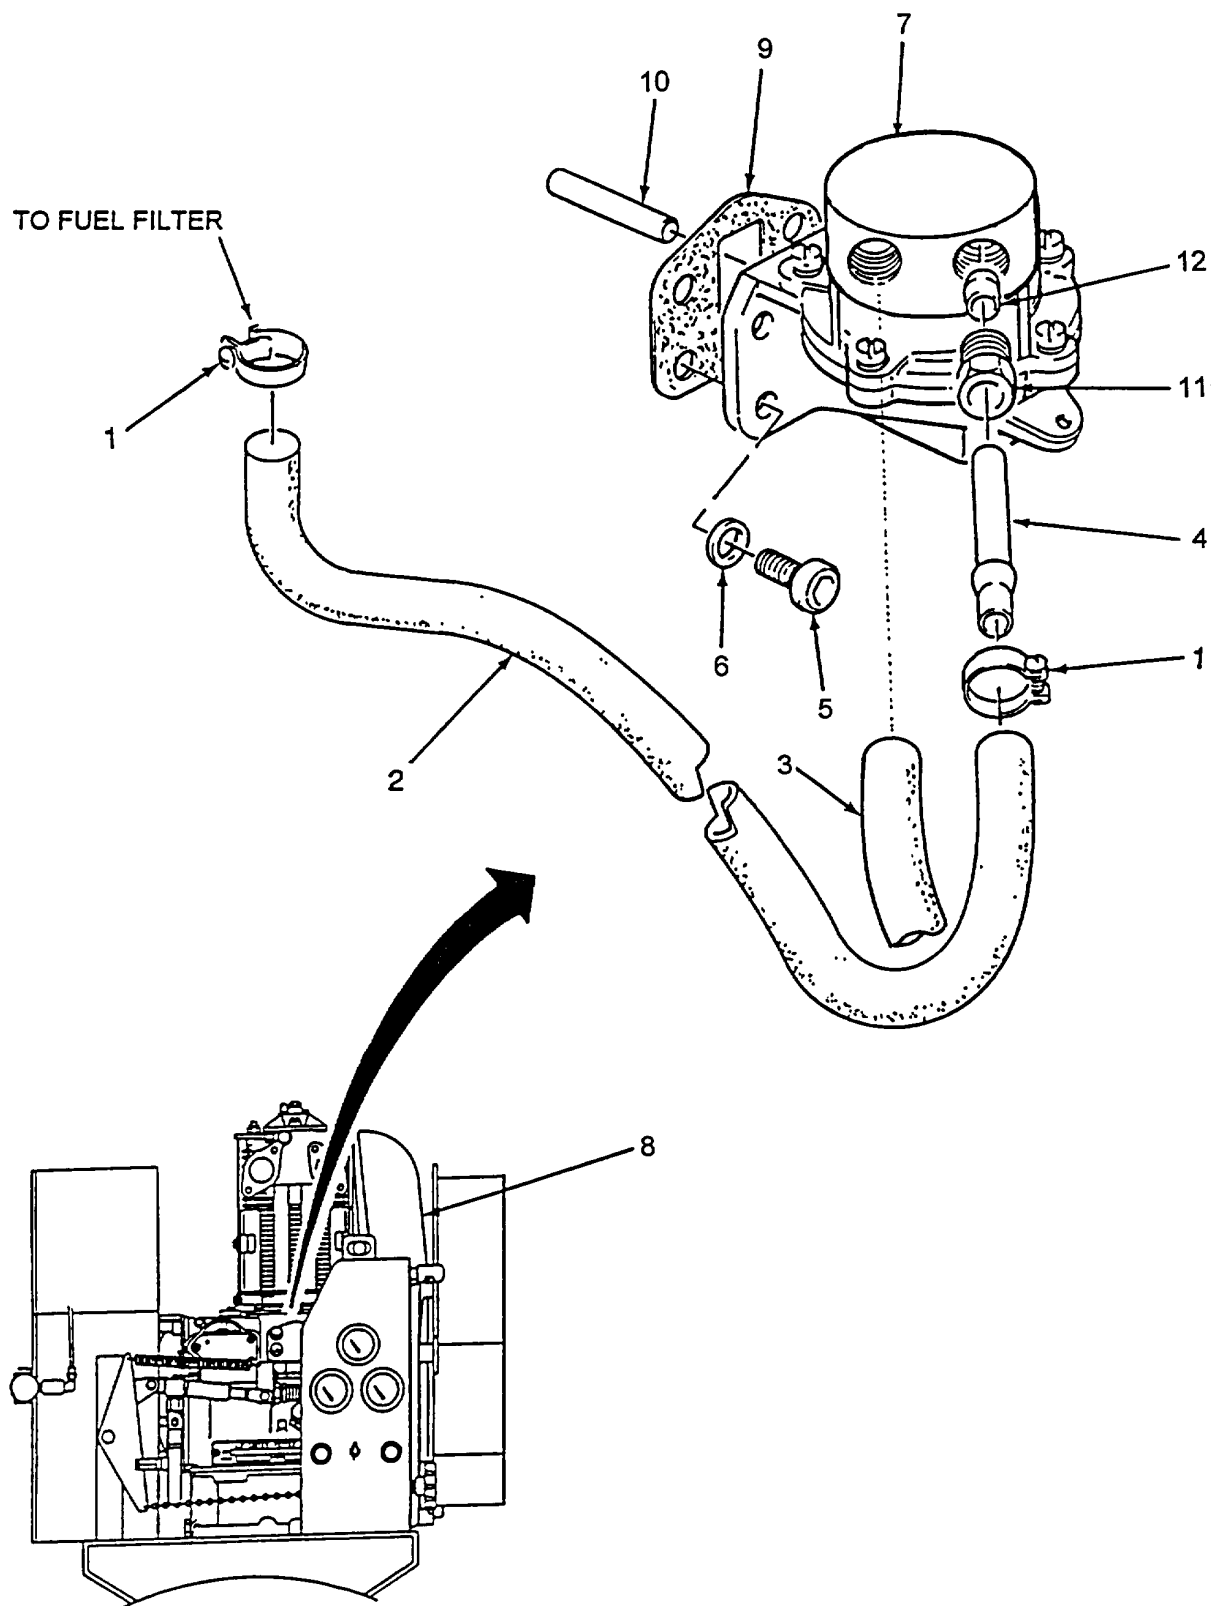

Figure 5-16. Fuel Lift Pump
(1) Removal. (Refer to Figure 5-16).
- (a) Loosen pipe clips (1) and slide them down on flexible fuel pipes (2 and 3). Remove flexible fuel pipe (2 and 3) from connections (4).
- (b) Remove four cap screws (5) and four washers (6) holding fuel lift pump (7) onto diesel engine (8).
- (c) Remove fuel lift pump (7), gasket (9) and push rod (10) from diesel engine (8).
- (d) Unscrew union (11) from port of fuel lift pump (7).
- (e) Remove connection (4), with ferrule (12) and union (11) from port of fuel lift pump (7).
(2) Repair.
- (b) Replace gasket (9).
(3) Installation.
- (a) Install push rod (10).